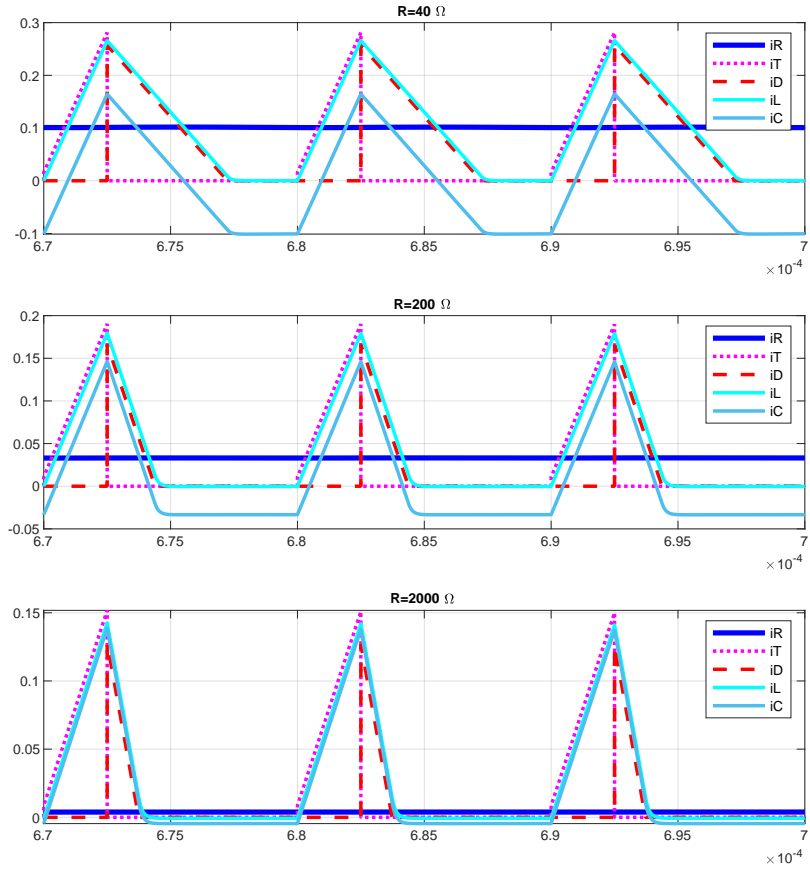

FIGURE 1.2 – Result with 40 Ω , 200 Ω and 2000 Ω load resistances
- b) Figure 1.2 shows the results for $R = 200 \Omega$. These results correspond to the analytical values (see Table 1.1).
- c) Figure 1.2 shows the results for $R = 2000 \Omega$. The seems to be an error in the simulation, generating values with up to an order of magnitude difference (see Table 1.1).